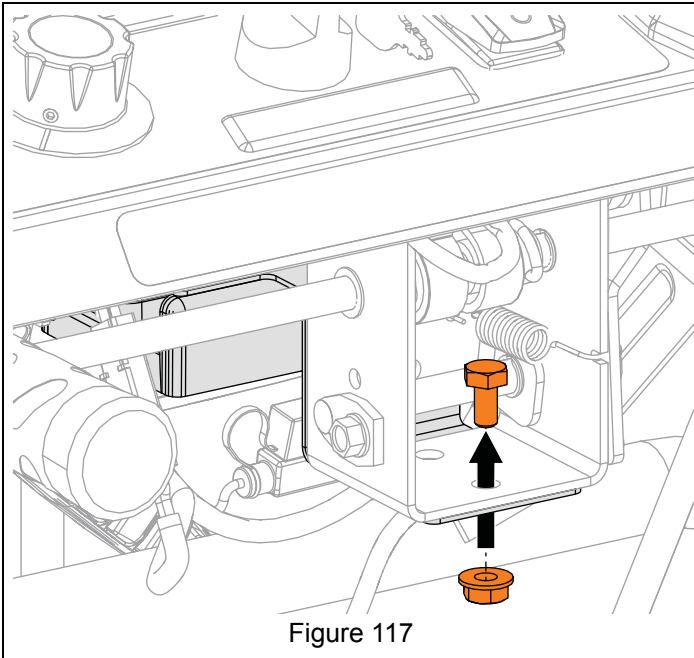

Figure 117
4. Remove hardware retaining ECU bracket and remove bracket. See Figure 117.